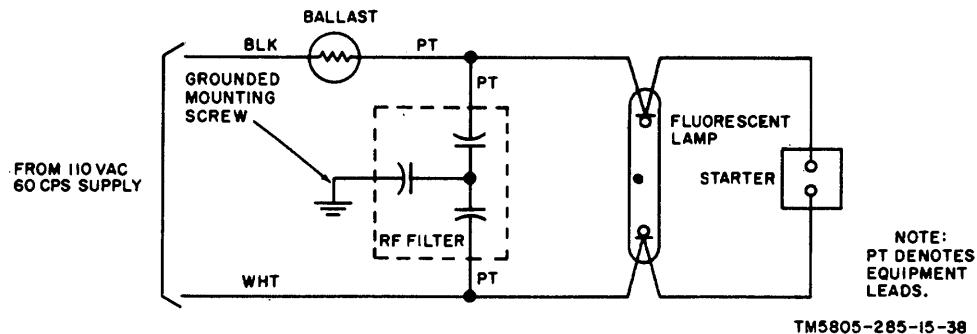

Figure 38. Fluorescent light fixture, schematic-wiring diagram.
- c. Tag and disconnect the wires from the defective component (fig. 38) and remove the defective component from the power duct.